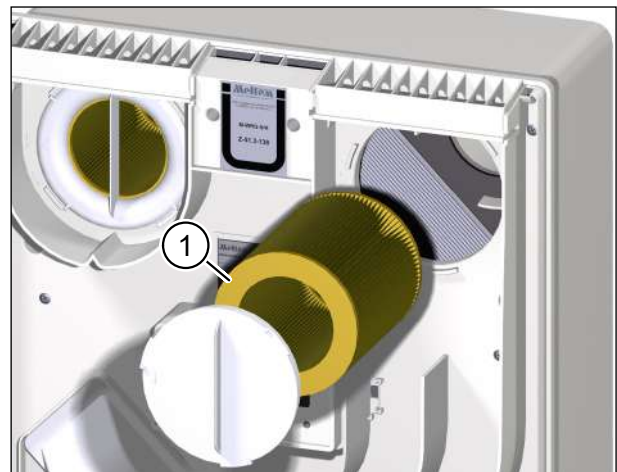

Fig. 18: Remove outdoor air filter
- ▶ Remove the outdoor air filter (item 1 in Fig. 18), see section 7.3 on page 12.